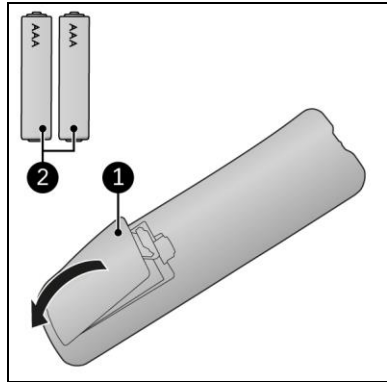

Figure 14
1. Remove the cover (Figure 14, pos. 1).
3. Insert two batteries (AAA 1.5 V) (Figure 14, pos. 2) as indicated in the battery compartment. Make sure to insert the batteries correctly.